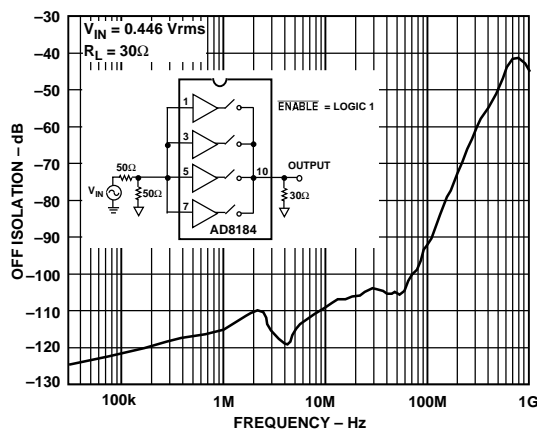

Figure 13. "OFF" Isolation vs. Frequency
- ⁷Multiplexer is disabled (i.e., ENABLE = logic 1) and all inputs are driven simultaneously with $V_{IN} = 0.446$ V rms. Output is monitored at $f = 5$ and 30 MHz. $R_L = 30$ Ω to simulate R_{ON} of one enabled multiplexer within a system (see Figure 13). In this mode the output impedance is very high (typ 10 M Ω), and the signal couples across the package; the load impedance determines the crosstalk.